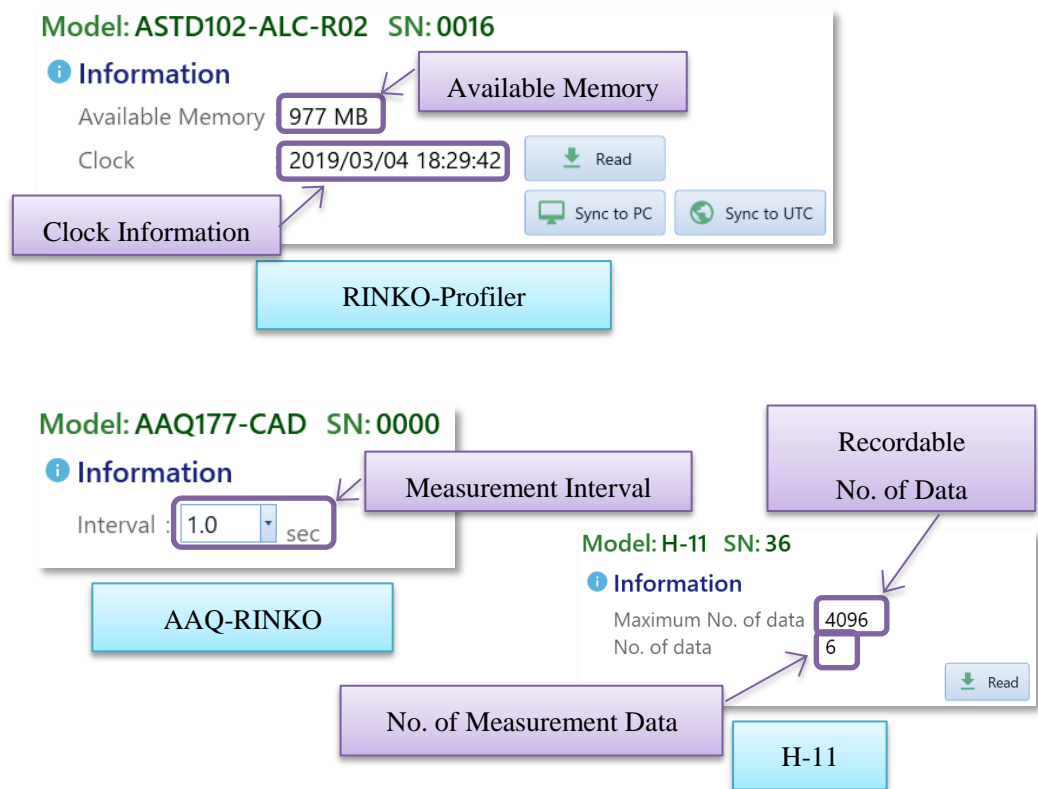

Figure 6.8 Examples of instrument information
- (3) Inherent instrument information will be displayed in “sub-window”. (Figure 6.8)